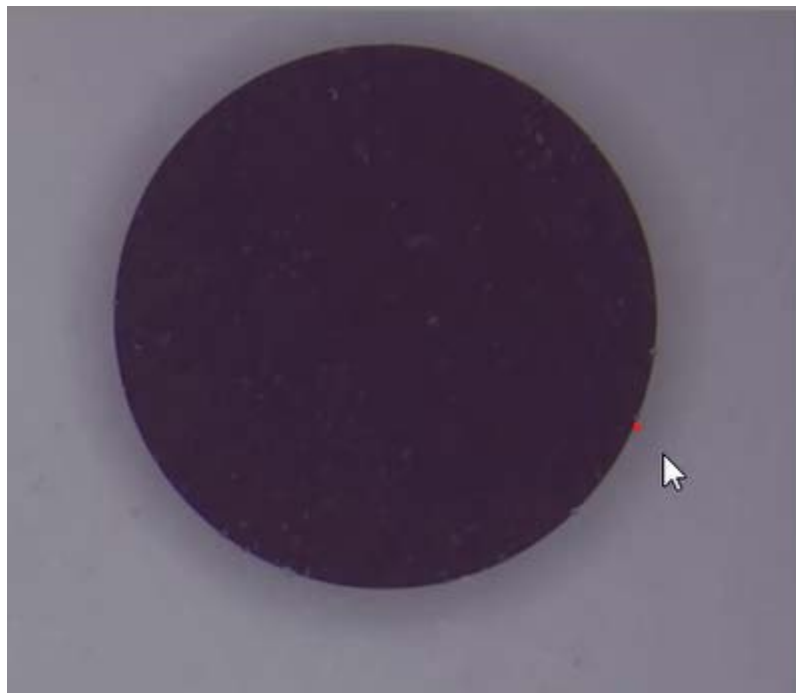

Fig 5-26 Edge Detect
- (15) Edge Detect : Whenever do measurement that can apply  tool to easily locate the edge, it is used to subsidiary help the other measuring tools. Click a dot close to the edge of object for quick and accurate measurement. See Fig. 5-26 shown.